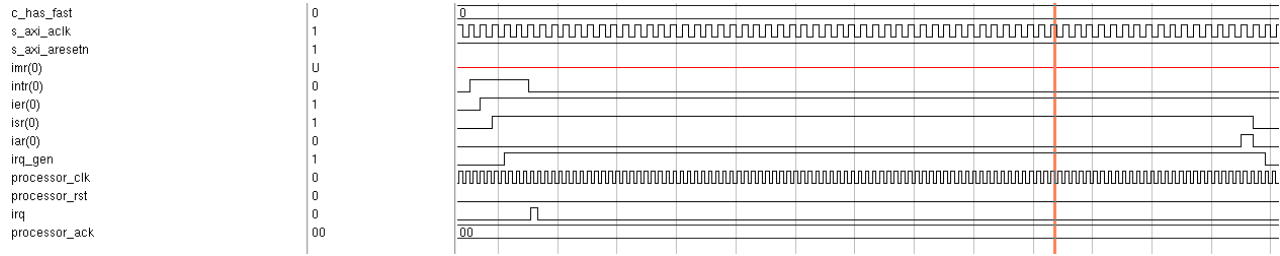

Figure 3-6: Input Intr - Level Sensitive (High), Output Irq - Edge Sensitive (Rising), C_HAS_FAST = 0
- Configured Input Interrupt (Intr) for Level sensitive (active-High), Output Interrupt Request (Irq) to Edge sensitive (Rising), disabled fast interrupt logic (C_HAS_FAST = 0). Timing diagram is shown in Figure 3-6.